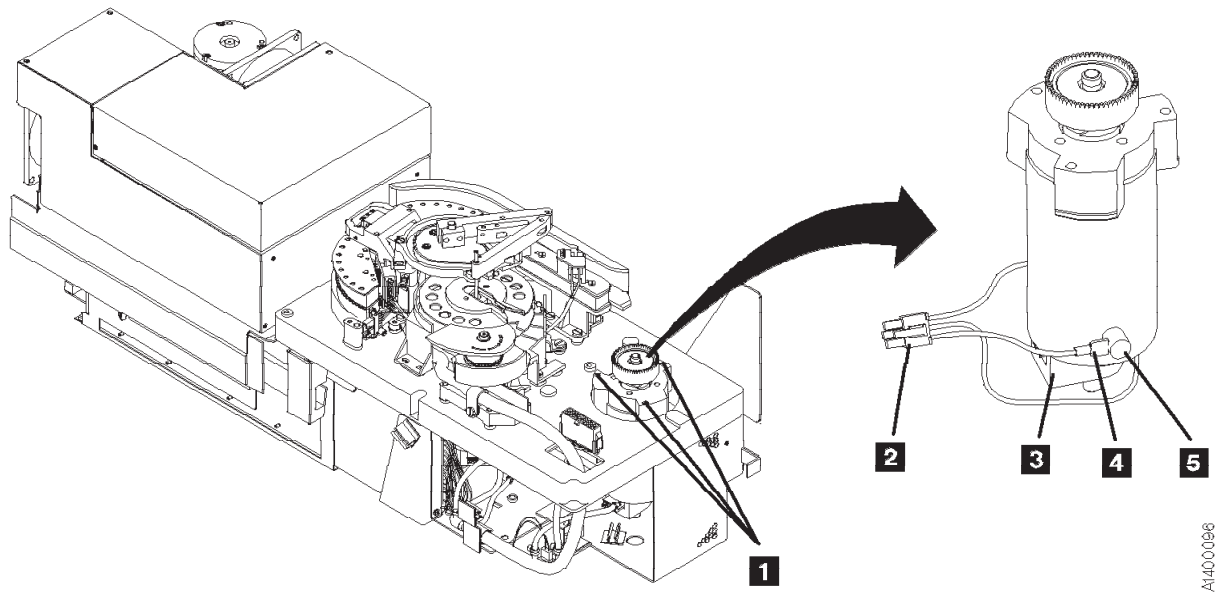

Figure 10-65. File Reel Motor
6. See Figure 10-65 on page 10-95. Disconnect connector MT1 **2**.